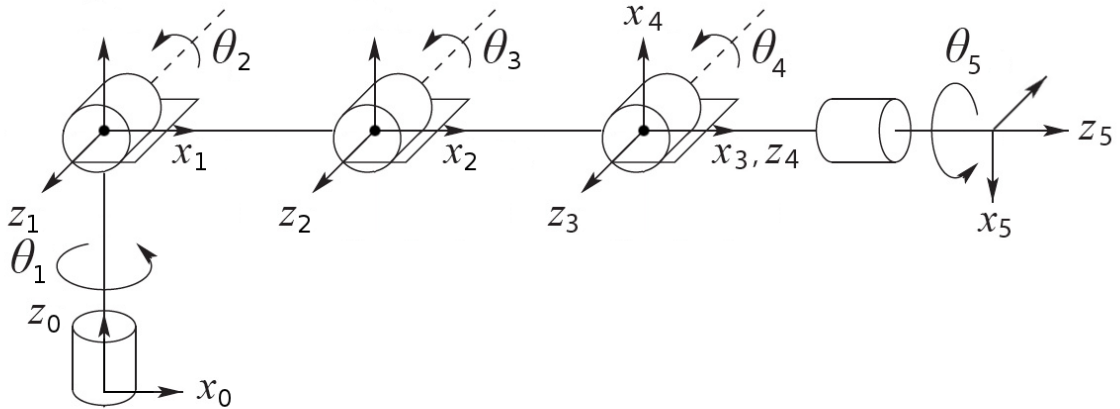

Figure 1: Denavit-Hartenberg frame placement for the A150 and A255 robots.
1. Derive the table of Denavit-Hartenberg (DH) parameters for the A150 robot using the frame placements shown in Figure 1. Links 1–3 all have a length of 10 inches. Link 4 can be treated as a link of length 0 inches. The distance between  $o_4$  and  $o_5$  is 2 inches.